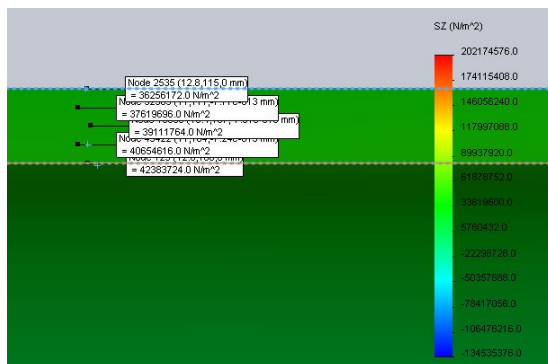

Figure 11
- b. Zoom into the top center of the vessel. Pick the bottom line and 3 points above it and conclude with the top line as shown in Fig. 11.